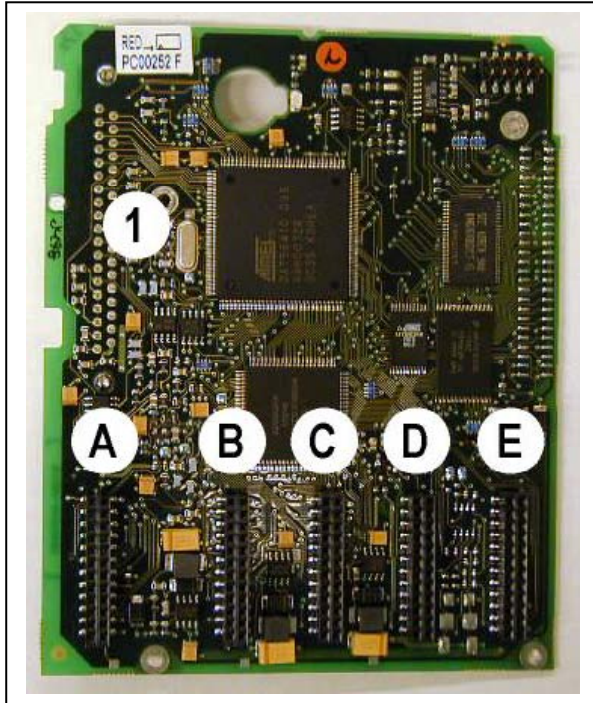

Figure 6-24. NX control board
The control unit of the frequency converter consists roughly of the control board and additional boards (see Figure 6-24 and Figure 6-25) connected to the five *slot connectors* (A to E) of the control board. The control board is connected to the power unit through a D-connector (1) or fibre optic cables (FR9).